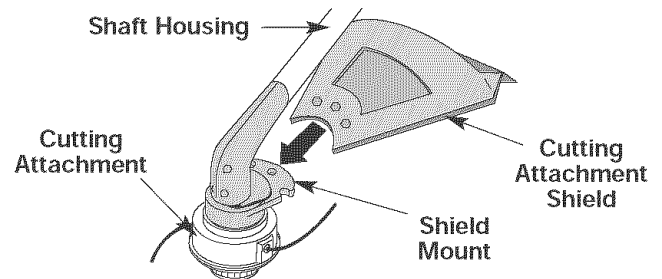

Fig. 2
4. While holding the unit in the operating position (Fig. 2), position the D-handle to the location that provides you the best grip.
1. Slide the cutting attachment shield into the shield mount on the cutting attachment. Align the screw holes in the shield with the holes in the cutting attachment shield mount (Fig. 2).